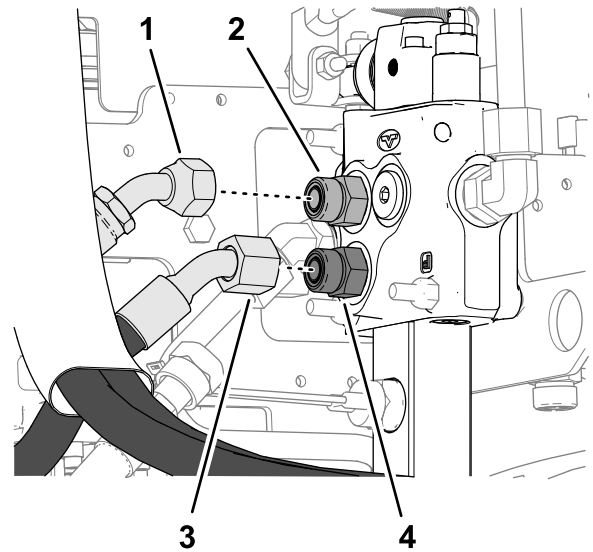

Figure 24
- Assemble the upper loader hose marked "Port B" to the upper auxiliary valve fitting (Figure 24).